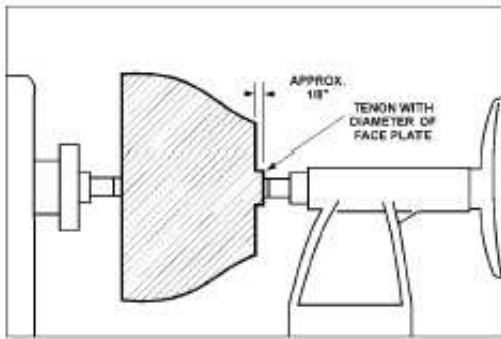

FIG.13
3. Slip spur center into headstock taper and bring the tailstock, with a live center into position. Lock tailstock to bed and advance spindle in order to seat the cup center into workpiece, see Figure 13. Tighten quill lock.
see Figure 13.
9. Turn a short tenon (about 1/8" long) the size of the hole in the faceplate, see Figure 13. This will allow centering the workpiece when the faceplate is attached. **Note:** If you plan to use a chuck, turn a tenon of appropriate length and diameter to fit your chuck.